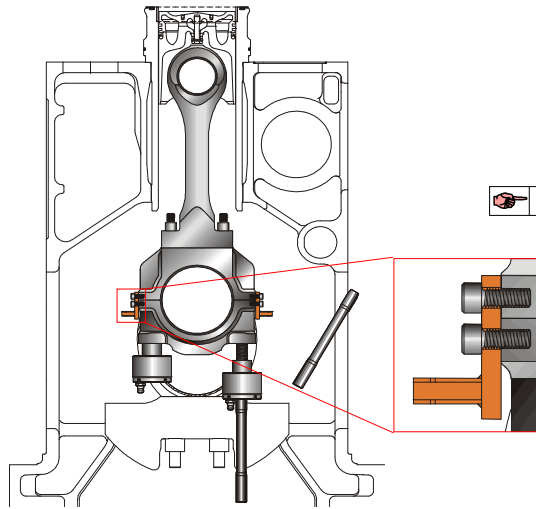

Fig. 1 Installing of holding support on big end parts
- Turn the crankshaft to TDC as shown in fig. 1.